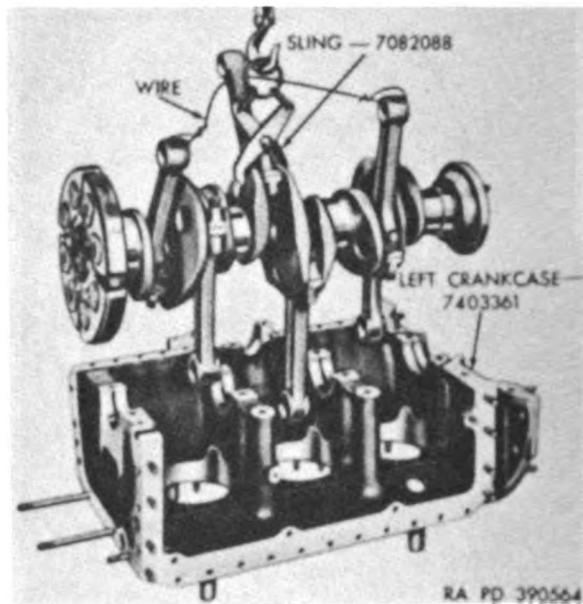

Figure 60. Removing or installing crankshaft and connecting rods.
- (8) Wire connecting rods together in a vertical position and attach crankcase lifting sling 7082088 (fig. 60).
- (9) Lift crankshaft and connecting rods from crankcase and place on wooden "V" blocks fastened to work bench so crankshaft rests on the two end main bearing journals.
- (10) Remove oil seal, crankshaft main bearing halves, and main thrust bearing halves from crankcase halves. Check backs of bearing halves for location markings. If no markings are present, mark bearing location on bearing with grease pencil for possible reinstallation.
- (11) Remove connecting rod protectors and support legs from crankcases and place crankcases on suitable wooden blocks so as not to damage machined surfaces.